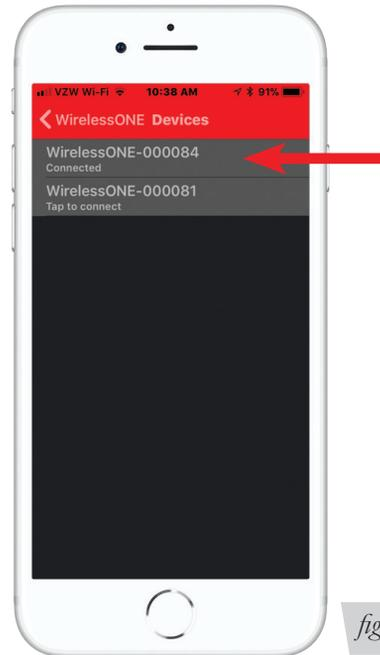

fig. C.2
3. The app will automatically go to the devices screen if no connected manifold is detected. Click on the device you want to pair. The manifold will have WirelessONE in the title. Each device also shows the connection status (Fig. C.2).